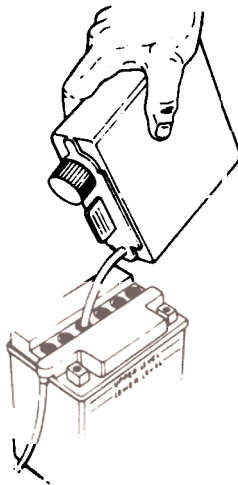

FIGURE 3.
6. Fill each battery cell slowly and carefully to the UPPER LEVEL line marked on battery. See figure 3. Use caution as the acid level will rise rapidly after the bottom of the cell is filled.
3. Place the battery inside the opening so that the positive terminal is toward the front of the unit. See figure 3. Route the battery drain tube down beside the battery.